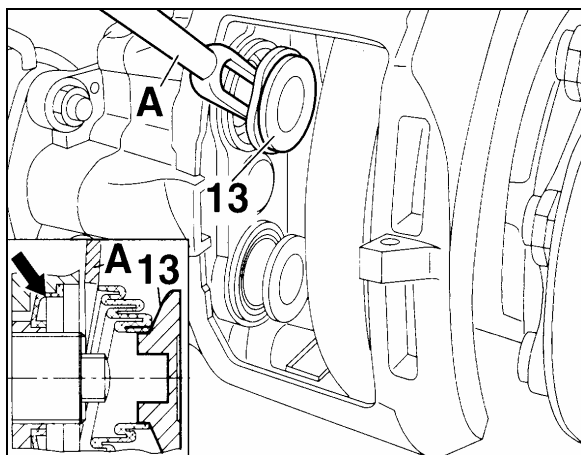

FIGURE 34: RUBBER BOOTS 12115
- a) The rubber boots (13, Fig. 34) should show no damage, check the attachment.